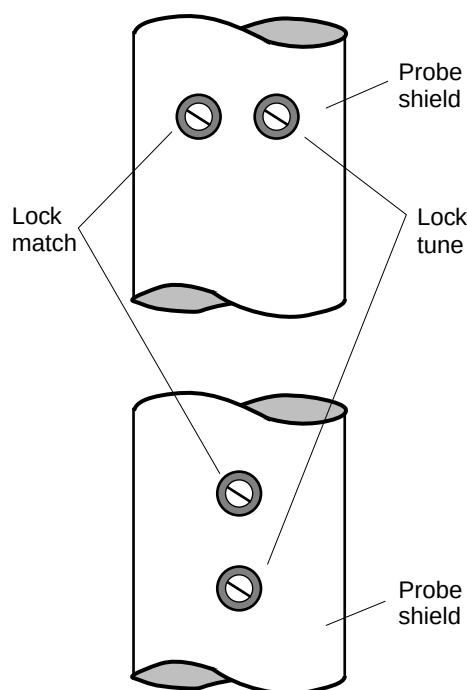

Figure 24. Lock Tune and Match Capacitors Locations
6. Tune the lock circuit to the proper frequency by alternately adjusting the two variable capacitors accessed through the two holes in the probe shield as shown in **Figure 24**. Continue until a minimum reading is obtained on the TUNING meter.